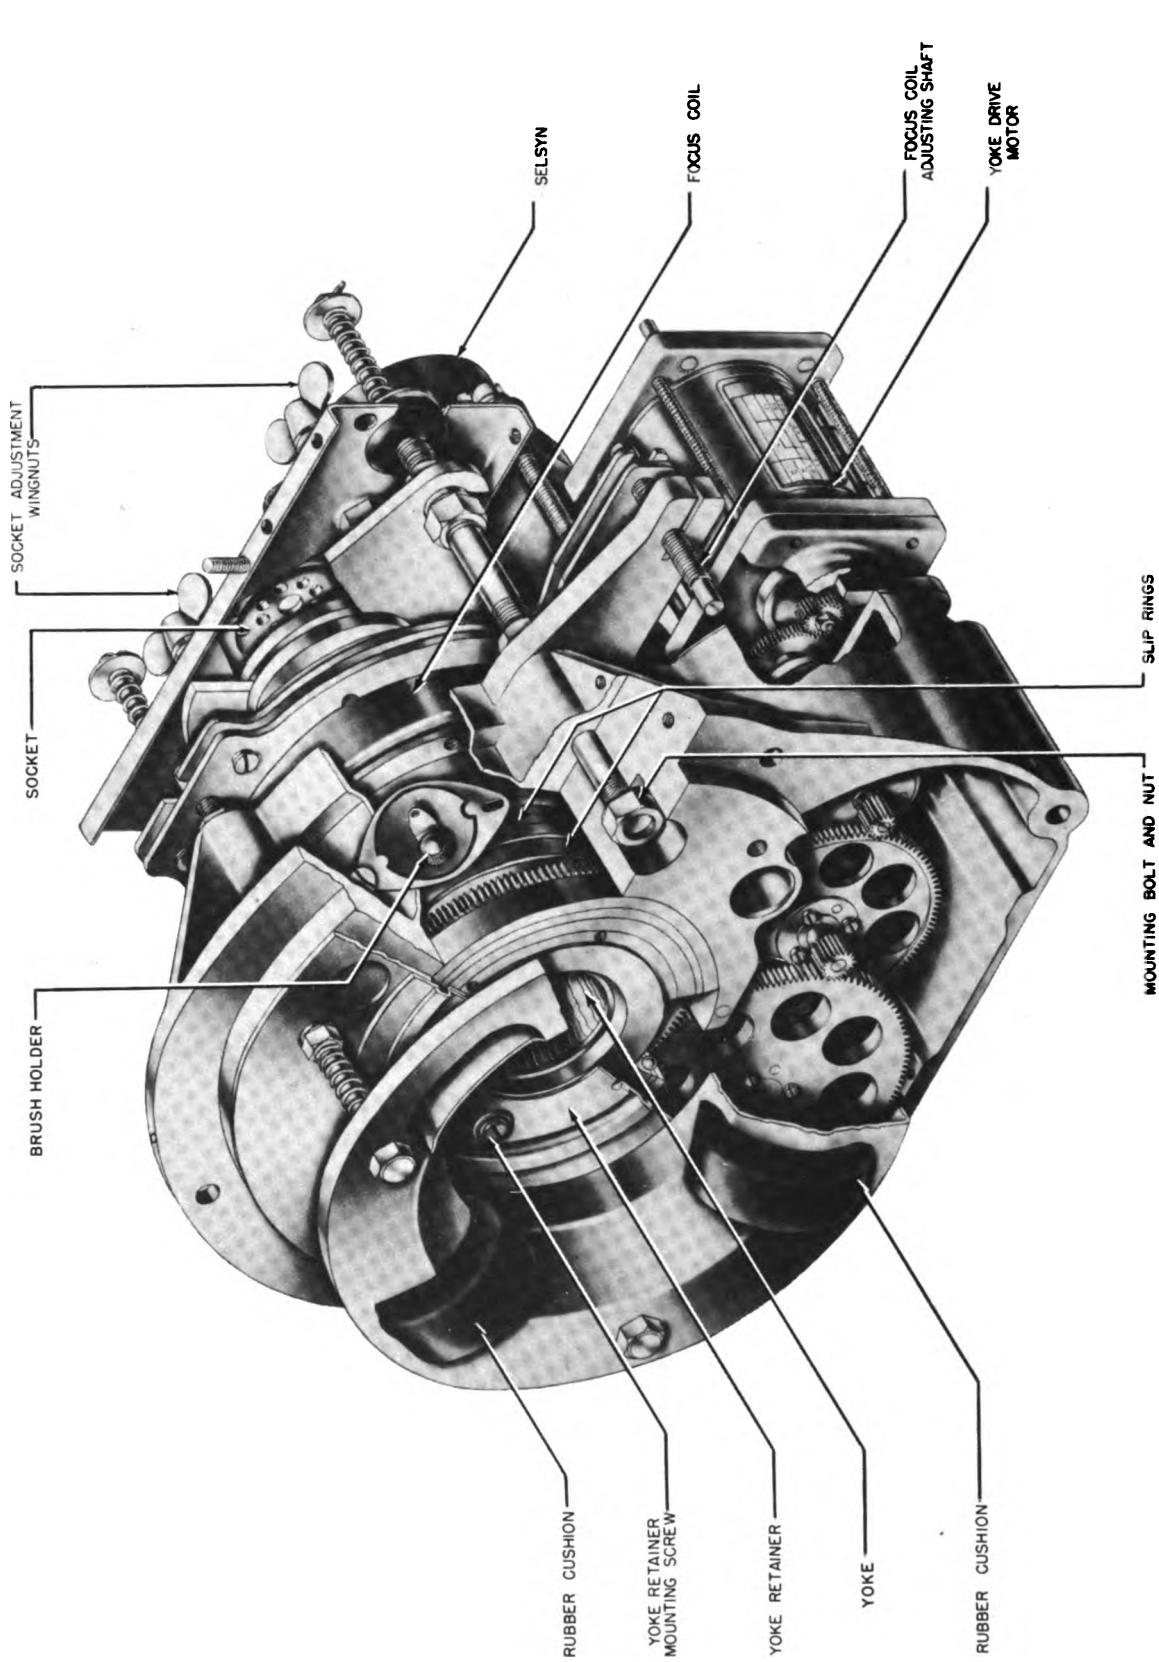

Figure 4-36. PPI mount.
c. Maintenance Procedure with Tube Removed from PPI Mount (fig. 4-36). In addition to the operations listed in subparagraph b, the following operations are to be performed:
(1) The rubber cushions for deterioration, hardening, cracks, and loose mounting.
(2) The yoke retainer shockmounting for poor elasticity and looseness.
(3) The interior surfaces for loose screws and bolts, and for dirt and corrosion.
(4) The pilot light for dirt and looseness (par. 2-15).